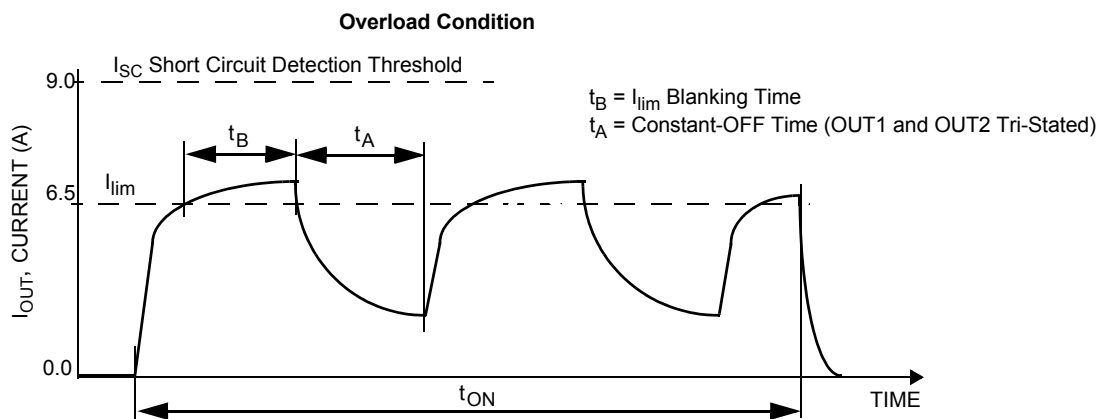
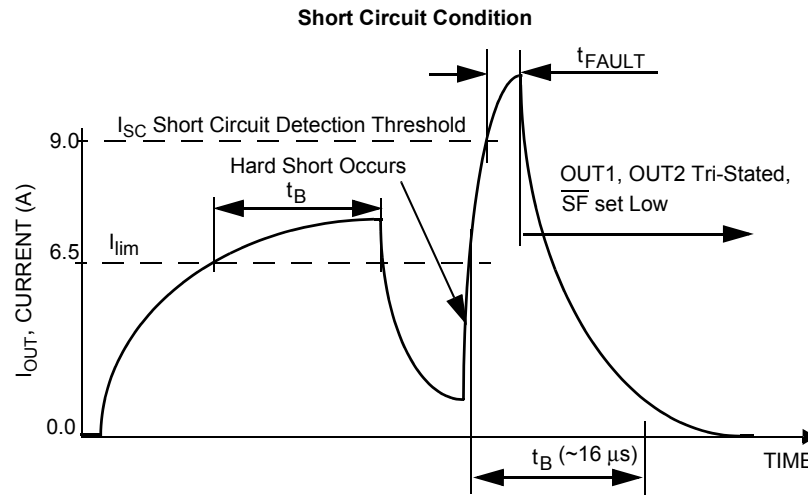
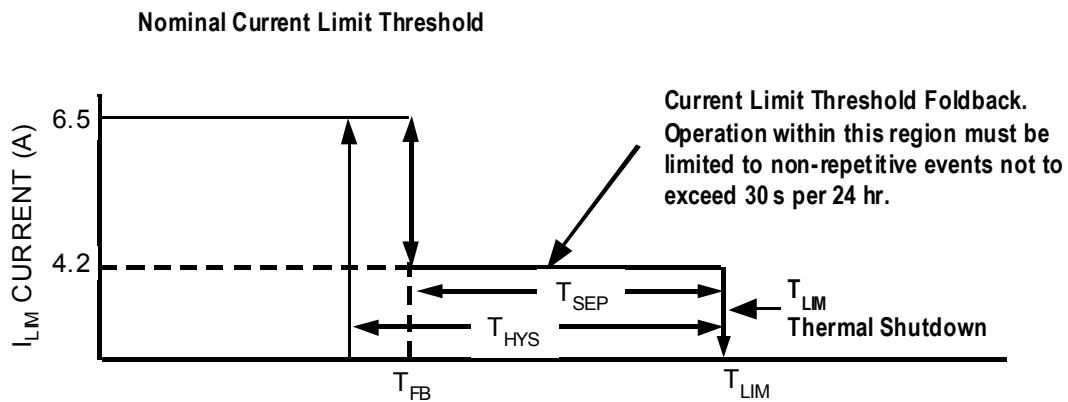

Figure 7. Current Limit Blanking Time and Constant-OFF Time
Figure 8. Short-circuit Detection Turn-OFF Time  $t_{FAULT}$
Figure 9. Output Current Limiting Foldback Region
28. Load currents ramping up to the current regulation threshold become limited at the  $I_{\text{LIM}}$  value (see Figure 7). The short-circuit currents possess a  $di/dt$  that ramps up to the  $I_{\text{SCH}}$  or  $I_{\text{SCL}}$  threshold during the  $I_{\text{LIM}}$  blanking time, registering as a short-circuit event detection and causing the shutdown circuitry to force the output into an immediate tri-state latch-OFF (see Figure 8). Operation in Current Limit mode may cause junction temperatures to rise. Junction temperatures above  $\sim 160^{\circ}\text{C}$  will cause the output current limit threshold to “fold back”, or decrease, until  $\sim 175^{\circ}\text{C}$  is reached, after which the  $T_{\text{LIM}}$  thermal latch-OFF will occur. Permissible operation within this fold back region is limited to non-repetitive transient events of duration not to exceed 30 seconds (see Figure 9).